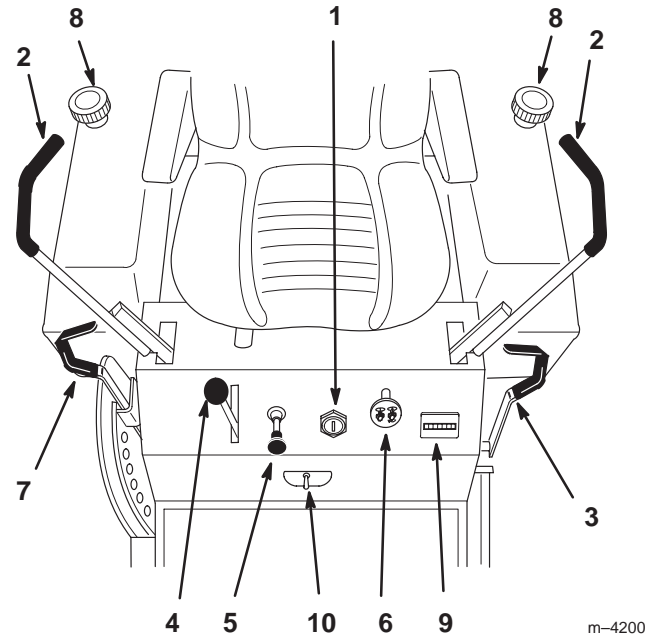

Figure 9
Become familiar with all of the controls (Fig. 9) before you start the engine and operate the machine.
1. Move the motion control levers (Fig. 9) out to the neutral lock position.